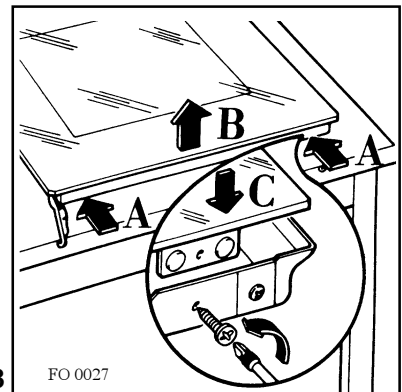

Fig. 8
- g) unscrew the two screws marked with lett. A fig.8;